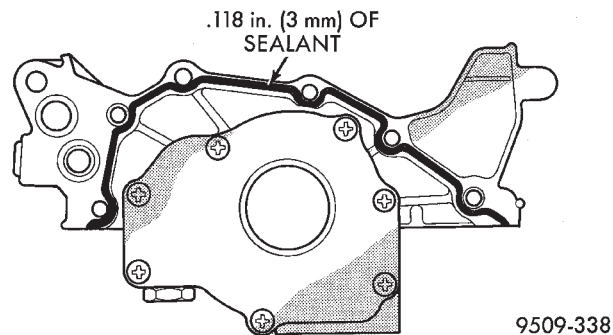

Fig. 77 Oil Pump Sealing
- (1) Clean block and pump surfaces.
- (2) Prime oil pump before installation by filling rotor cavity with clean engine oil.
- (3) Apply mopar gasket maker to oil pump as shown in (Fig. 77). Install oil-ring into the counter bore on the oil pump body discharge passage.
- (4) Install oil pump slowly onto crankshaft until seated to engine block. Tighten fasteners to M8 bolts